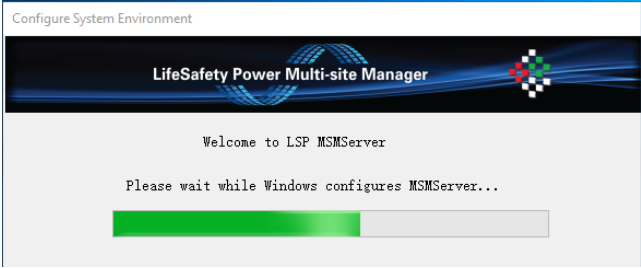

Figure 9a
11. Windows will begin configuring MSM Server. If the LSP Certificate cannot be found, the installation will ask to install it. Click Yes if this window appears (Figures 9a and 9b)